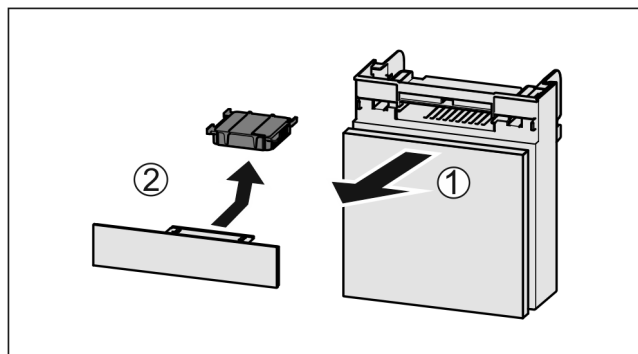

Fig. 45
- ▶ Pull out the compartment Fig. 45 (1).
- ▶ Remove the carbon filter Fig. 45 (2).